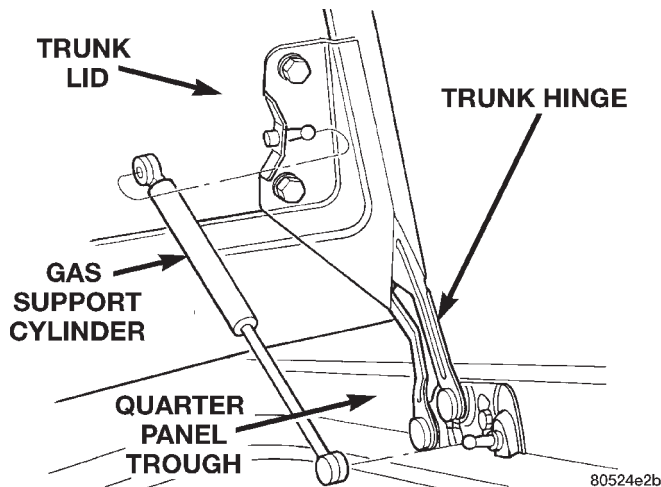

Fig. 71 Trunk Hinge And Gas Support Cylinder
- (1) Release trunk latch and open trunk lid.
- (2) Mark outline of hinge on trunk lid to aid in installation (Fig. 71).
- (3) Disconnect all wire connectors from trunk latch and disengage wire harness from trunk lid.
- (4) Place suitable padding between trunk lid and deck panel to protect paint finish.
- (5) With aid of a helper, remove bolts holding trunk lid to trunk hinge.
- (6) Separate trunk lid from vehicle.
- (2) Mark outline of trunk hinge on trunk lid and quarter panel trough to aid in installation.
- (3) Place suitable padding to cover deck panel in order to protect paint finish.
- (4) Using a suitable wooden dowel or other prop rod, support trunk lid.
- (5) Pull out caps at each end of gas support cylinder.
- (6) Disengage gas support cylinder from trunk hinge by prying cylinder from ball stud on hinge (Fig. 71).
- (7) With aid of a helper, remove bolts holding trunk hinge to trunk lid.
- (8) Remove bolts holding trunk hinge to quarter panel.
- (9) Separate trunk hinge from vehicle.